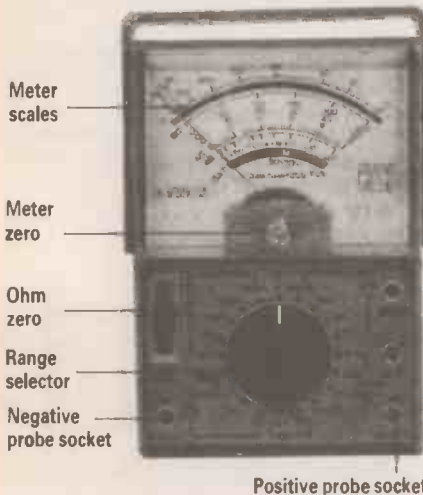

Fig. 4.14. A typical multimeter.
A typical multimeter is depicted in Fig. 4.14 although your own meter (or the one you will be using) will be different, it will contain most, if not all, of the labelled parts in this diagram. The following discussion makes reference to all of these parts and you will need to study the operators manual of your own meter to compare the differences.
4. Touch together the tips of the two meter probe leads so that the needle deflects to the right hand side of the scale. If the needle does not sit directly over the ohms zero, adjust the ZERO-OHM control (see Fig. 4.14) until it does (this is called "zeroing the Ohm's range").